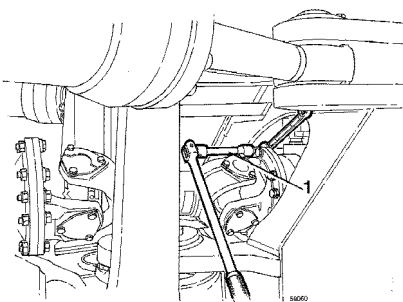

Figure 2
5. Remove the front propeller shaft, see Figure 2.